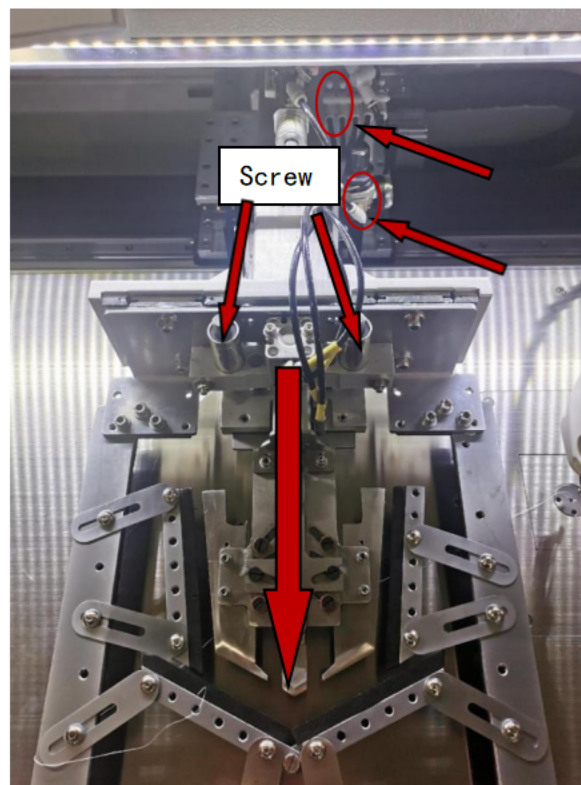

FIG. 14
3. Replacement of double stitch re-tractor plate:keep the equipment in sufficient air pressure and shutdown, as shown in FIG.14:
Then loosen the screw in the figure above and pull out the two air pipes (FIG.14), remove the re-tractor plate and install the new re-tractor plate in place, tighten the screw and insert the corresponding air pipe to make sure there is no air leakage